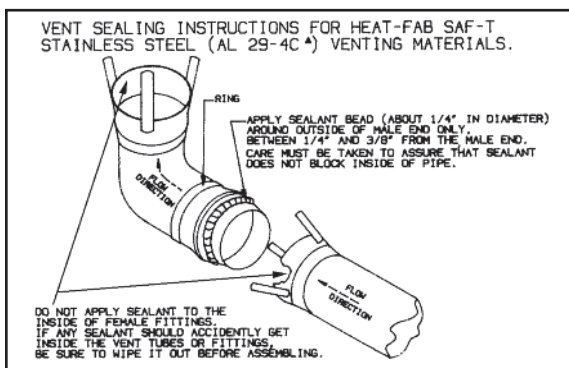

Figure 4. Vent Sealing Instructions
- C) Use sealant specified by vent system manufacturer for sealing of pipe and fittings. See Figure 4 for proper application of vent pipe sealing for Safe-T vent system by Heat-Fab, Inc.